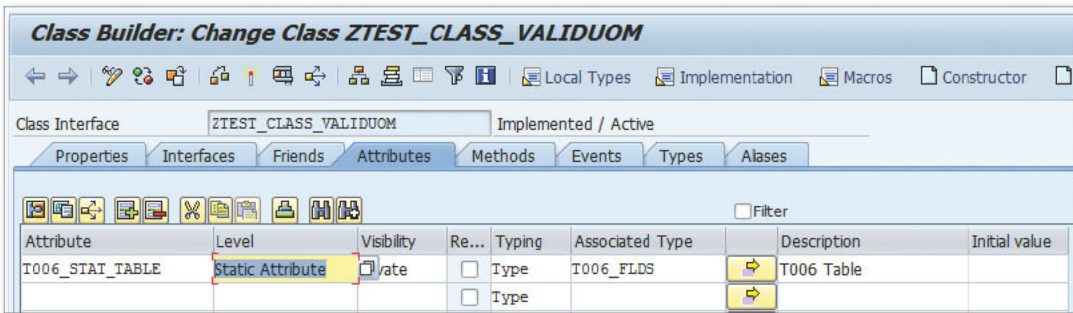

Figure 1 Creating a Static Attribute Internal Table in the Class Builder
2. Create a static attribute internal table to store the table content of the T006 UOM table using the ATTRIBUTES tab of the class (see Figure 1).